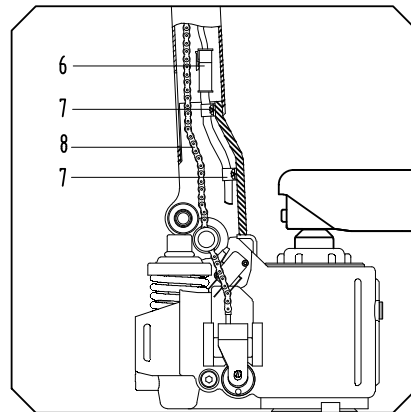

Figure 4
4.4 Refer to Figures 4 and 6. Hang the screw nut on the end of chain 8 into the groove of lever plate 11.